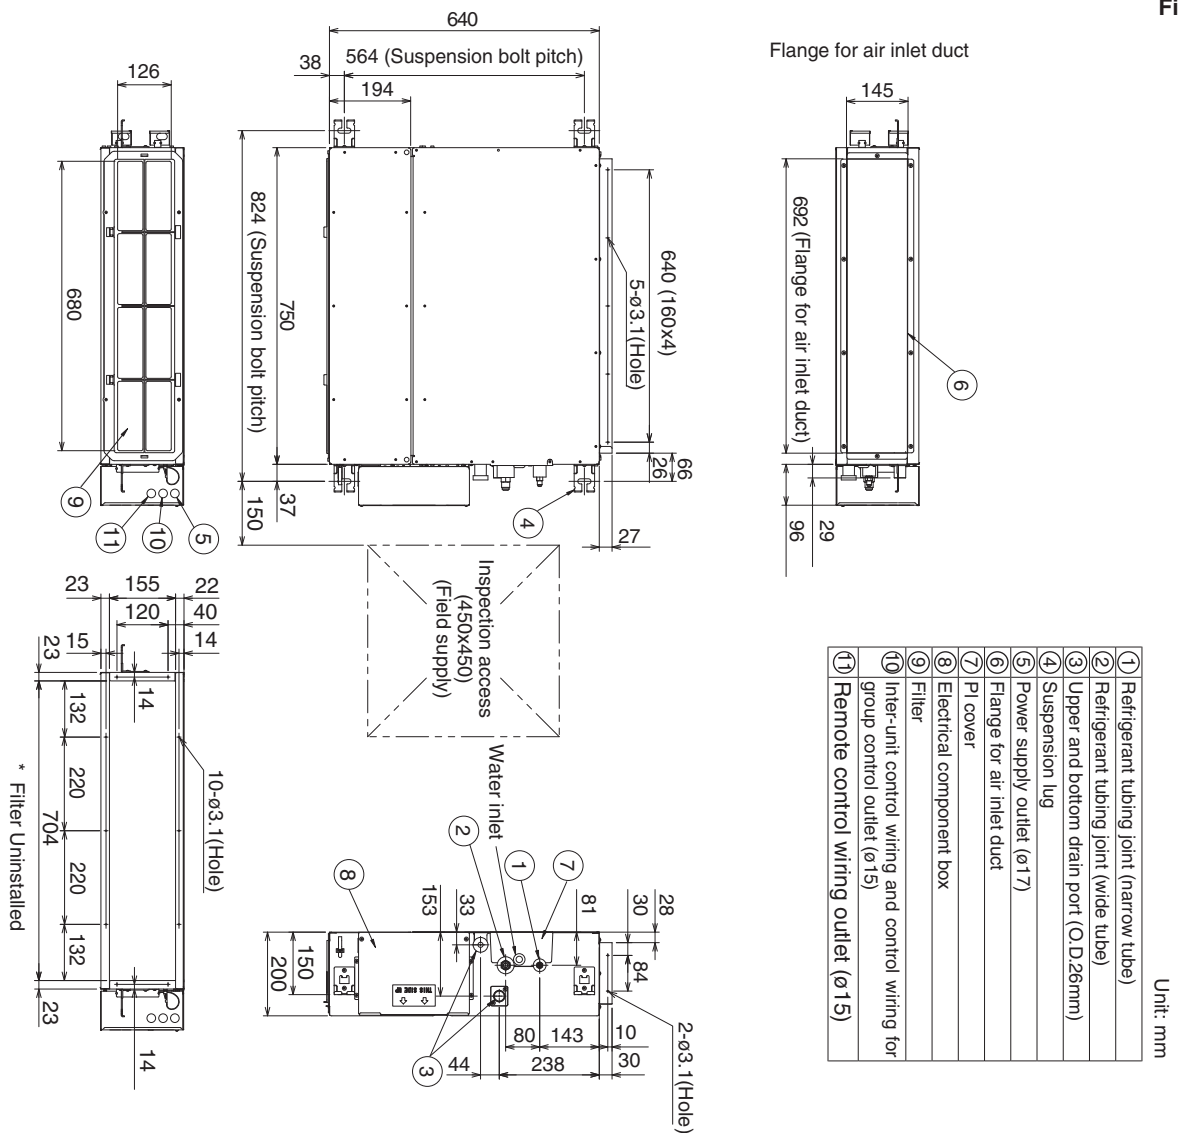

Fig. 3-55
- The diagram shows the detailed dimensions of the indoor unit. (Fig. 3-55)